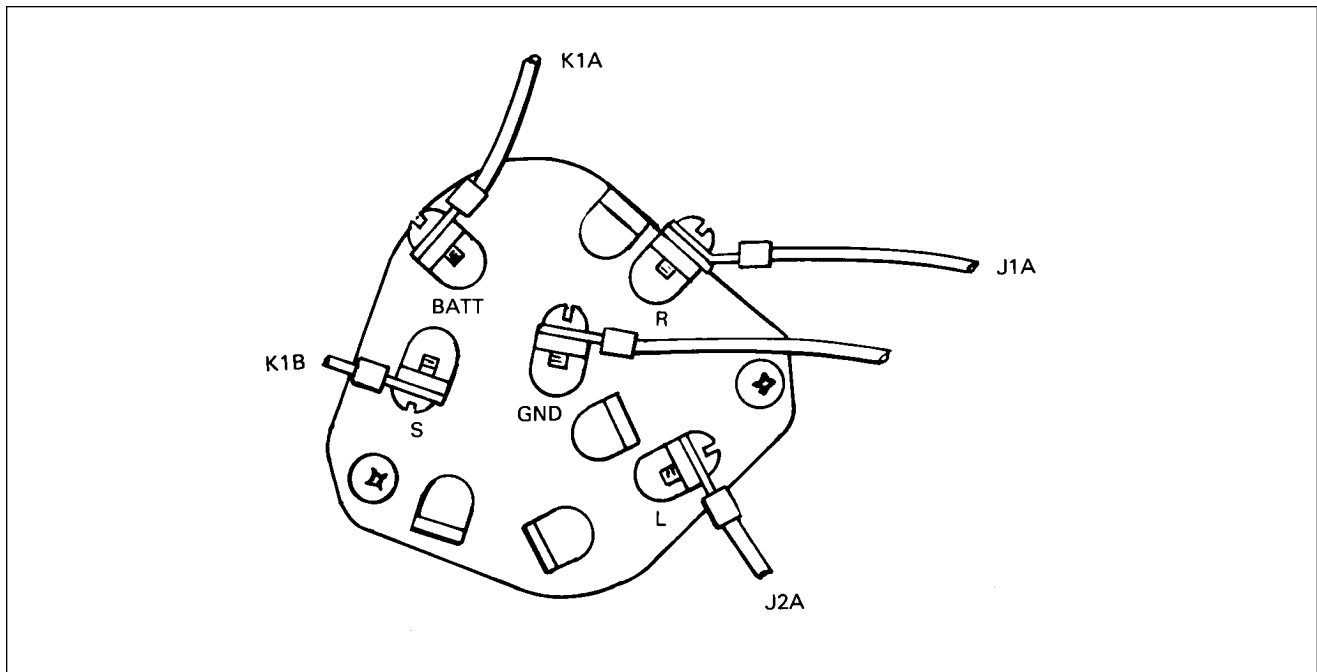

Figure 74-23. Ignition Switch Wire Positions
INSTALLATION OF IGNITION SWITCH. (Refer to Figure 74-23.)
1. Attach wires to switch as shown in Figure 74-23.